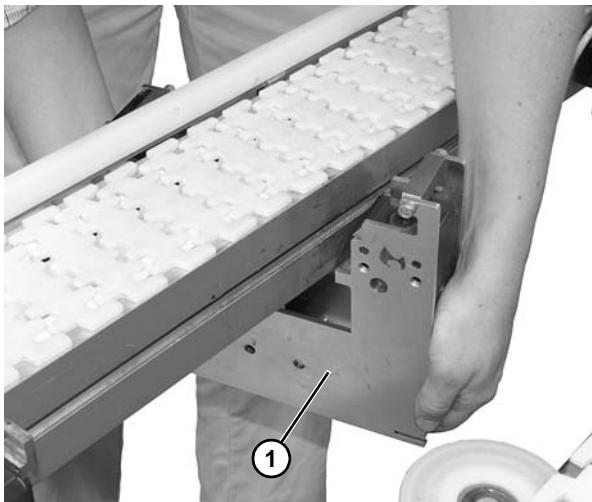

Figure 8
1. Raise lift and locate station (**Figure 8, item 1**), on an angle as shown, into position from under the conveyor.